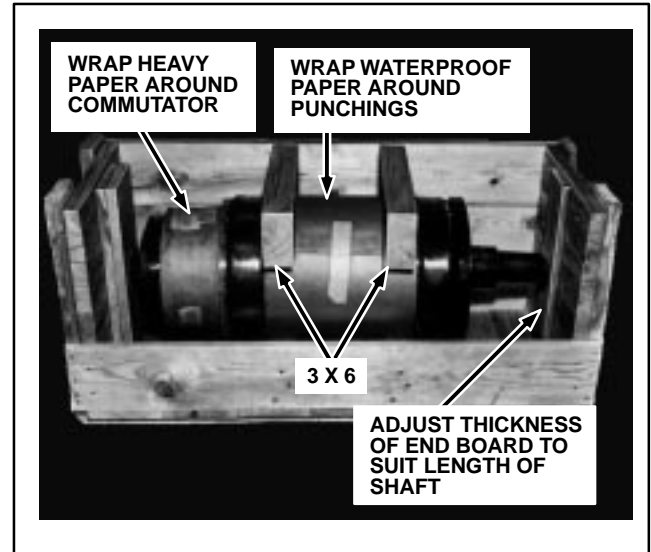

FIG. 46. ARMATURE PLACED IN SHIPPING BOX. E-3783.
- Place it in the box. Support it on two saddle blocks under the punchings and secure it against lateral movement. See Fig. 46.
- Place two saddle blocks over the core punchings, as shown in Fig. 46, and nail them to the side boards. If the box is the correct size, the top of the saddles will be flush with the top of the side boards. See Fig. 47.